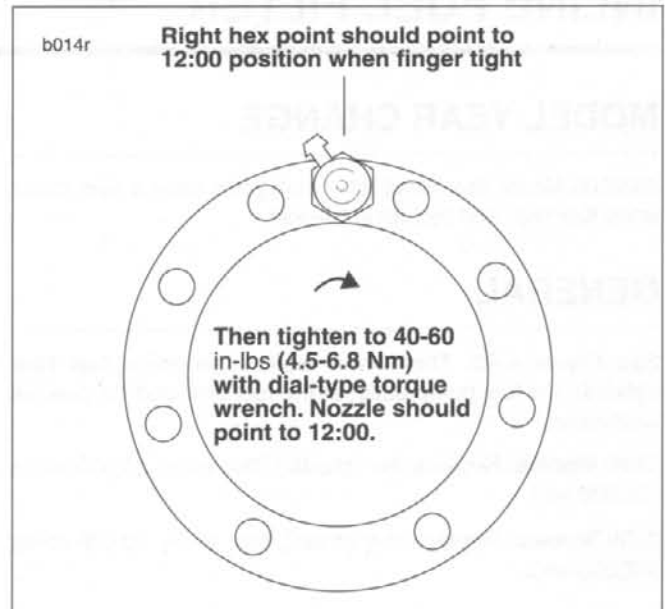

Figure 4-92. Fuel Tank Vent Alignment
6. See Figure 4-92. Align fitting so right front point of hex is oriented to 12:00 position when fitting is tightened finger tight. Make sure O-ring remains in groove of fitting while tightening.